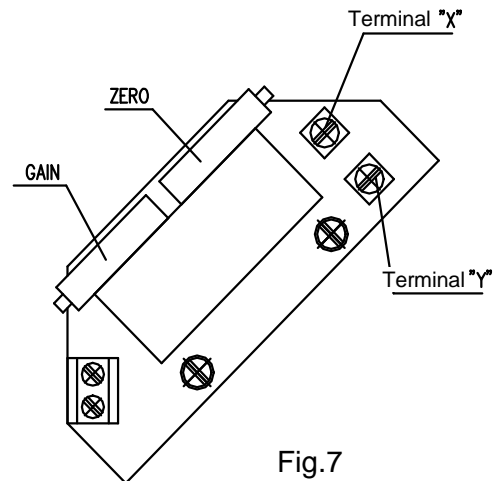

Fig.7
#### 3.4.1 EPV – the 2-wire version (Fig. 7,7a)
- Adjust the resistive transmitter according to the previous chapter. The resistance is to be metered on the terminals X-Y (Fig. 7,7a). The used transmitter resistance is 100 W.
- Adjust the resistive transmitter according to the previous chapter. The resistance is to be metered on the terminals X-Y (Fig. 7,7a).